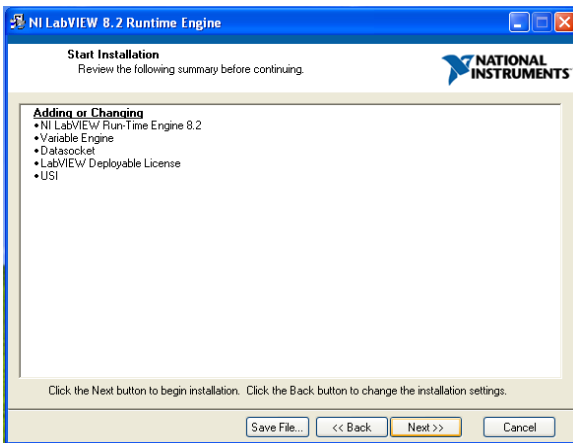

Figure 16. Start Installation (Summary)
7. When the screen in Figure 16 appears, click **Next >>** to continue.